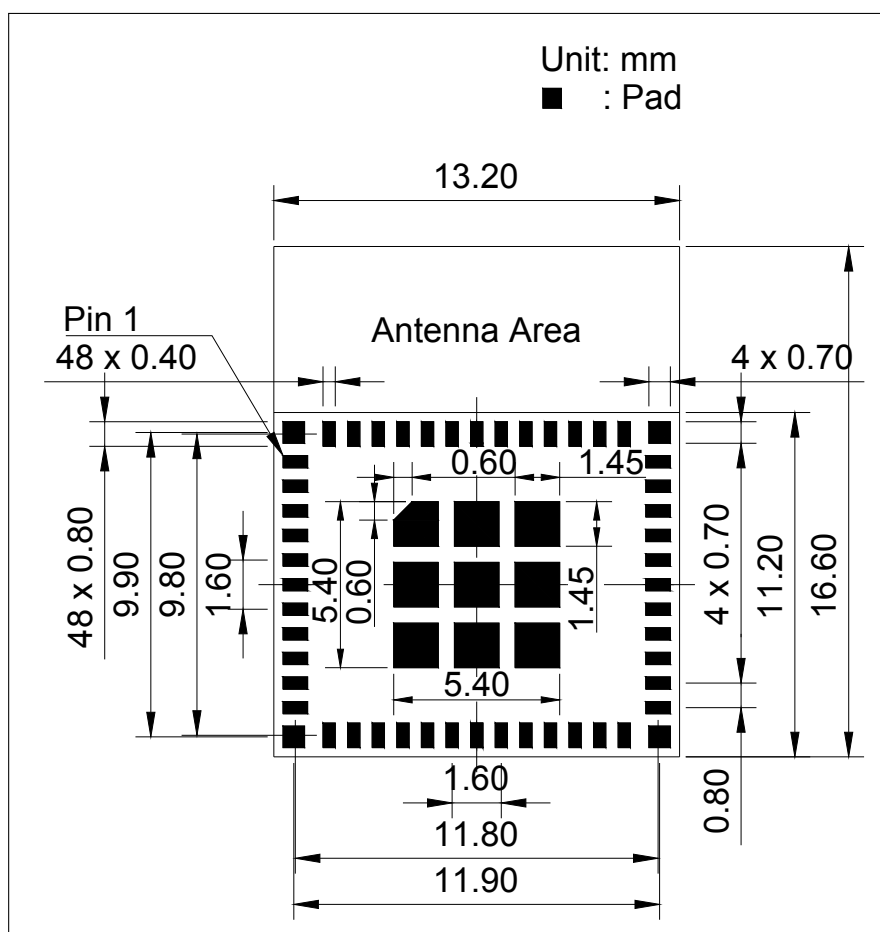
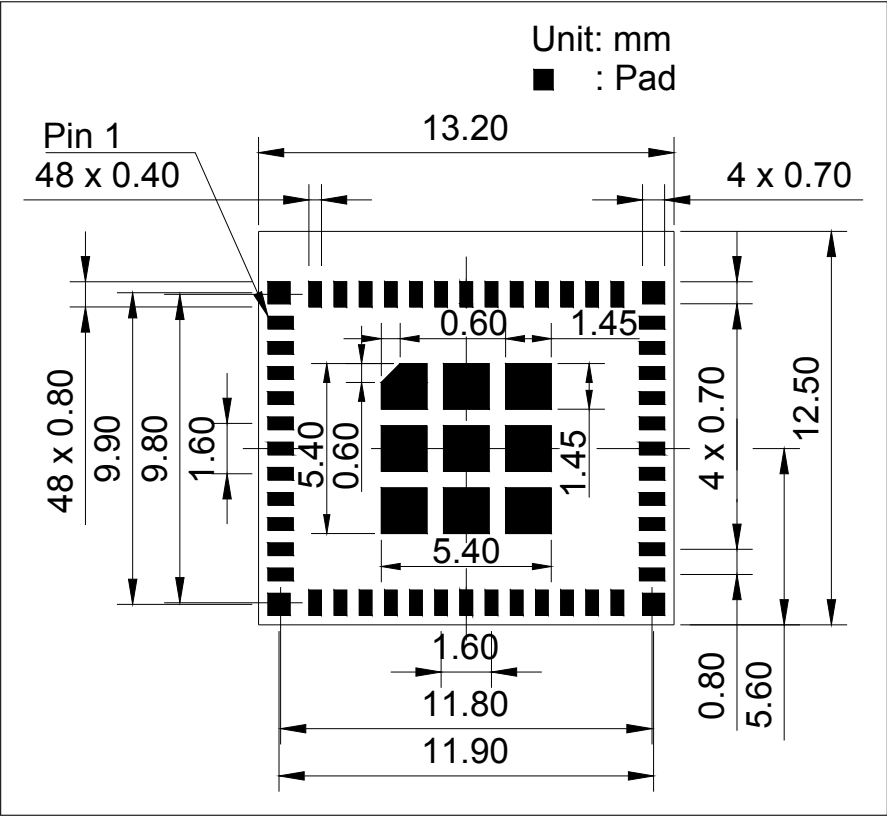

Figure 10: ESP32-C6-MINI-1 Recommended PCB Land Pattern
Figure 11: ESP32-C6-MINI-1U Recommended PCB Land Pattern
- Figures for recommended PCB land patterns with all the dimensions needed for PCB design. See Figure 10 *ESP32-C6-MINI-1 Recommended PCB Land Pattern* and Figure 11 *ESP32-C6-MINI-1U Recommended PCB Land Pattern*.
- Source files of recommended PCB land patterns to measure dimensions not covered in Figure 10 and Figure 11. You can view the source files for ESP32-C6-MINI-1 and ESP32-C6-MINI-1U with Autodesk Viewer.